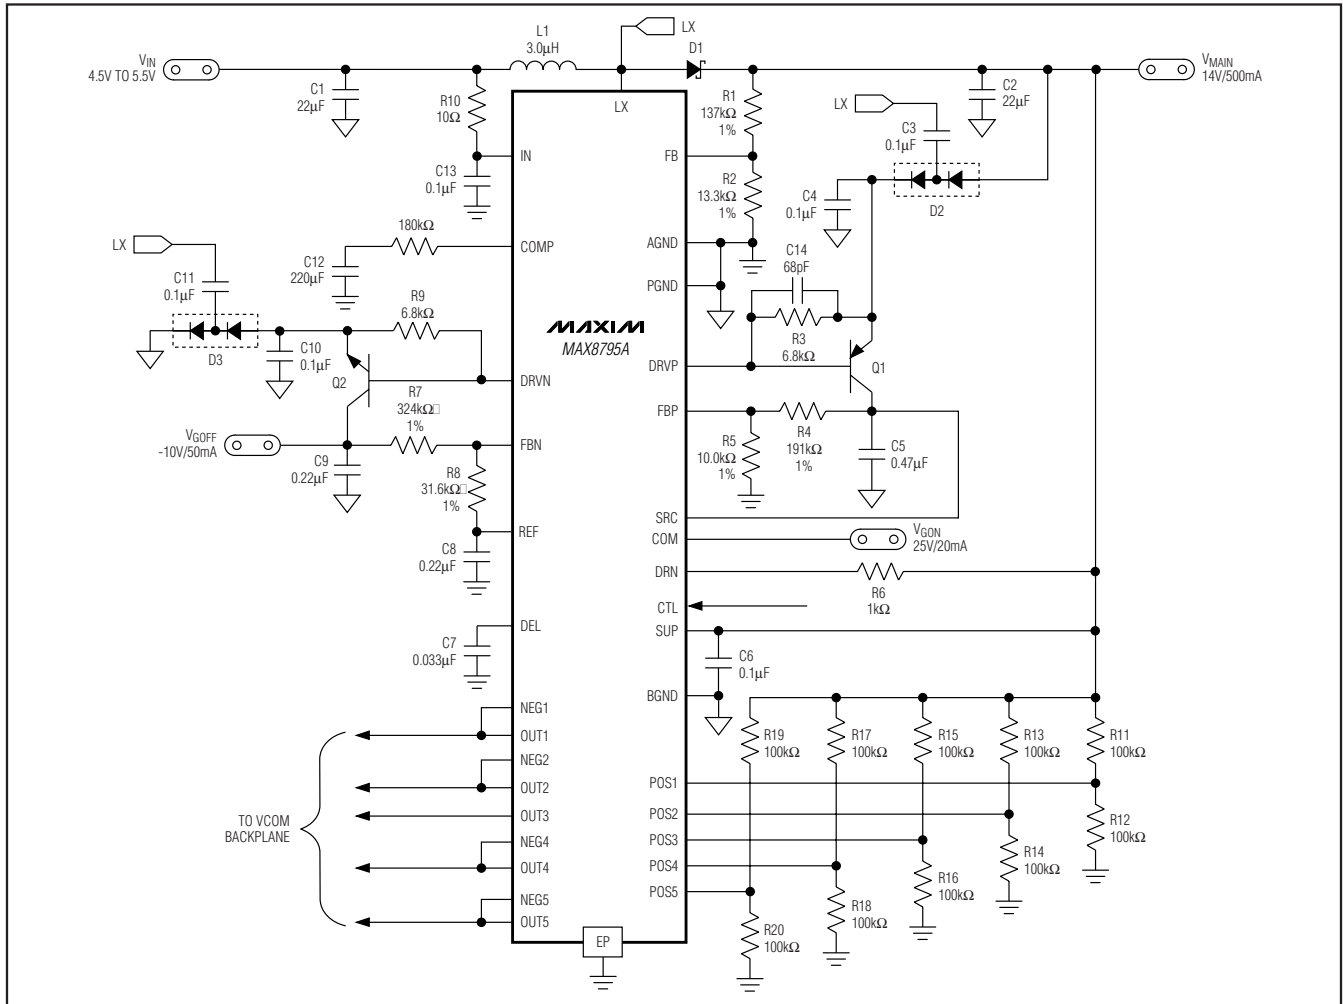

Figure 1. Typical Operating Circuit
(Circuit of Figure 1, $V_{IN} = 5V$, $V_{MAIN} = 14V$, $V_{GON} = 25V$, $V_{GOFF} = -10V$, $T_A = +25^\circ C$, unless otherwise noted.)
The MAX8795A typical operating circuit (Figure 1) is a complete power-supply system for TFT LCDs. The circuit generates a +14V source-driver supply and +25V and
-10V gate-driver supplies. The input voltage range for the IC is from +2.5V to +5.5V. The listed load currents in Figure 1 are available from a +4.5V to +5.5V supply. Table 1 lists some recommended components, and Table 2 lists the contact information of component suppliers.
The gate-on linear-regulator controller (REG P) is an analog gain block with an open-drain n-channel output. It drives an external pnp pass transistor with a 6.8kΩ base-to-emitter resistor (Figure 1). Its guaranteed base-drive sink current is at least 1mA. The regulator including Q1 in Figure 1 uses a 0.47μF ceramic output capacitor and is designed to deliver 20mA at 25V. Other output voltages and currents are possible with the proper pass transistor and output capacitor. See the *Pass-Transistor Selection and Stability Requirements* sections.
The gate-off linear-regulator controller (REG N) is an analog gain block with an open-drain p-channel output. It drives an external npn pass transistor with a 6.8k Ω base-to-emitter resistor (Figure 1). Its guaranteed base-drive source current is at least 1mA. The regulator including Q2 in Figure 1 uses a 0.47 μ F ceramic output capacitor and is designed to deliver 50mA at -10V. Other output voltages and currents are possible with the proper pass transistor and output capacitor (see the *Pass-Transistor Selection* and *Stability Requirements* sections).
REG N is typically used to provide the TFT-LCD gate drivers' gate-off voltage. A negative voltage can be produced using a charge-pump circuit as shown in Figure 1. REG N is enabled after the voltage on REF exceeds 1.0V. Each time it is enabled, the control goes through a soft-start routine that ramps down its internal reference DAC from VREF to 250mV in 128 steps.